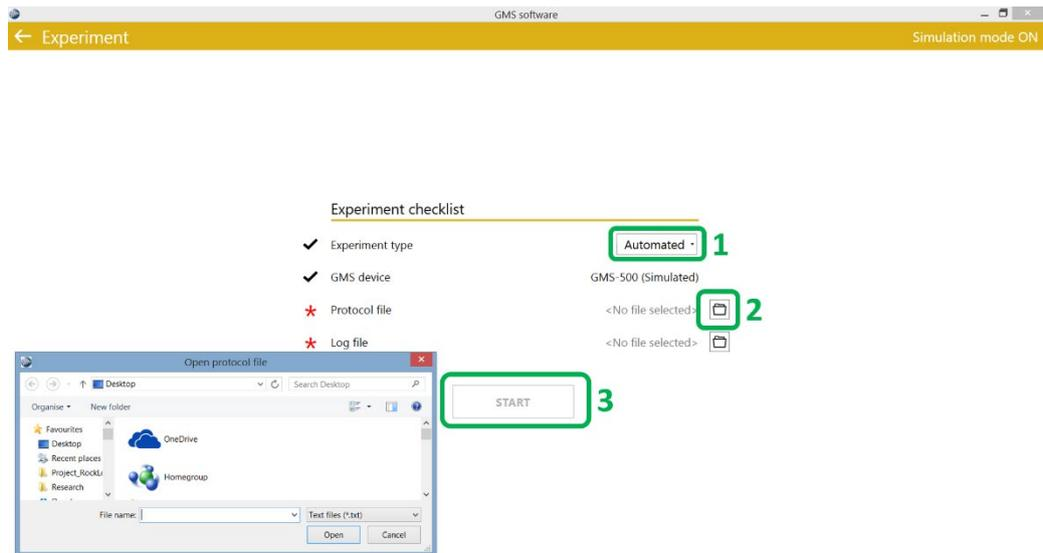

Figure 9: Automated experiment
1. In the Experiment checklist choose 'Automated' experiment type from the drop down field (1, Figure 9).
3. Choose a location for the log file to be saved (2, Figure 9).
4. START the experiment (3, Figure 9).